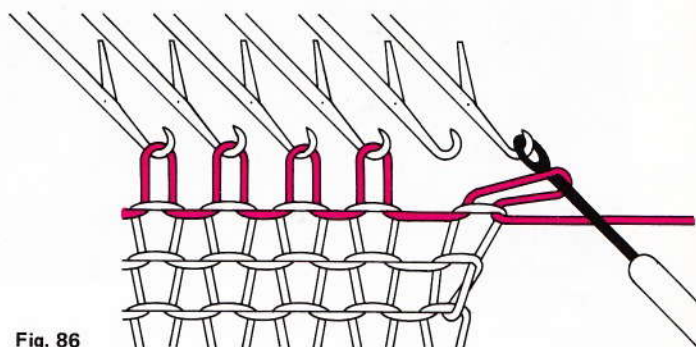

Fig. 86
- Using the 1-stitch transfer tool, transfer the edge stitch onto the empty needle (fig. 86).